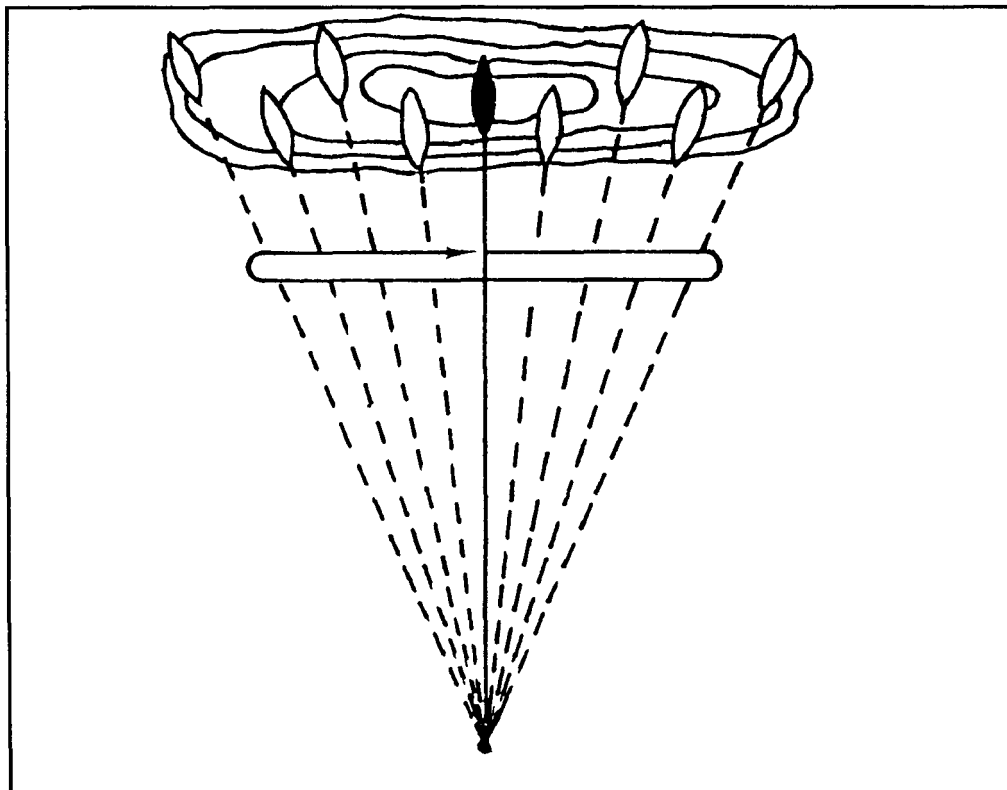

Figure 6-11. Engagement of area target.
(2) *Area target.* When engaging an area target, an automatic rifleman fires in the center of mass, then traverses and searches to either flank (Figure 6-11). Upon reaching the flank, he reverses direction and traverses and searches in the opposite direction. A leader may indicate the width and depth of the target.